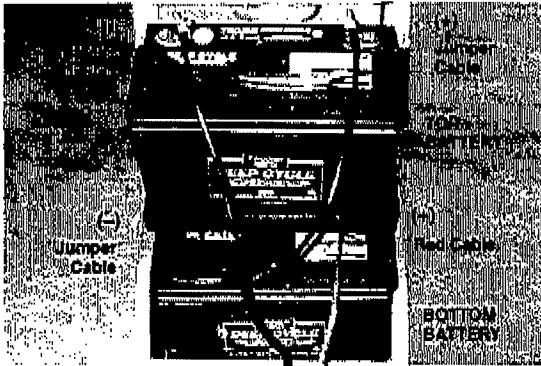

FIG. 4
4. Connect red battery cable coming from machine to positive (+) post of bottom battery. Then connect black jumper cable to negative (-) post (Figure 4).
6. Connect black battery cable coming from machine to negative (-) post of top battery. Then connect opposite end of black jumper cable to positive (+) post (Figure 4).